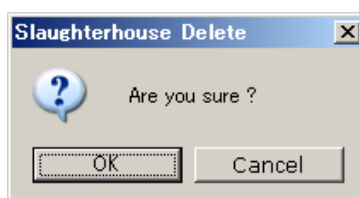

Fig. 11.2.2-1 : Slaughterhouse delete
- (3) Click "OK" on the 'Slaughterhouse Delete' screen (Fig. 11.2.2-1). The list of remaining slaughterhouses is indicated.